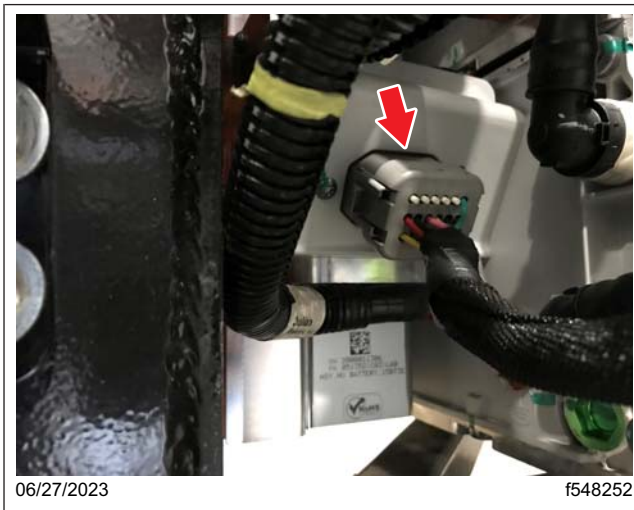

Fig. 4, Communication Harness Location
8. Remove the communication harness (total two) from each battery in the pack. See Fig. 4.